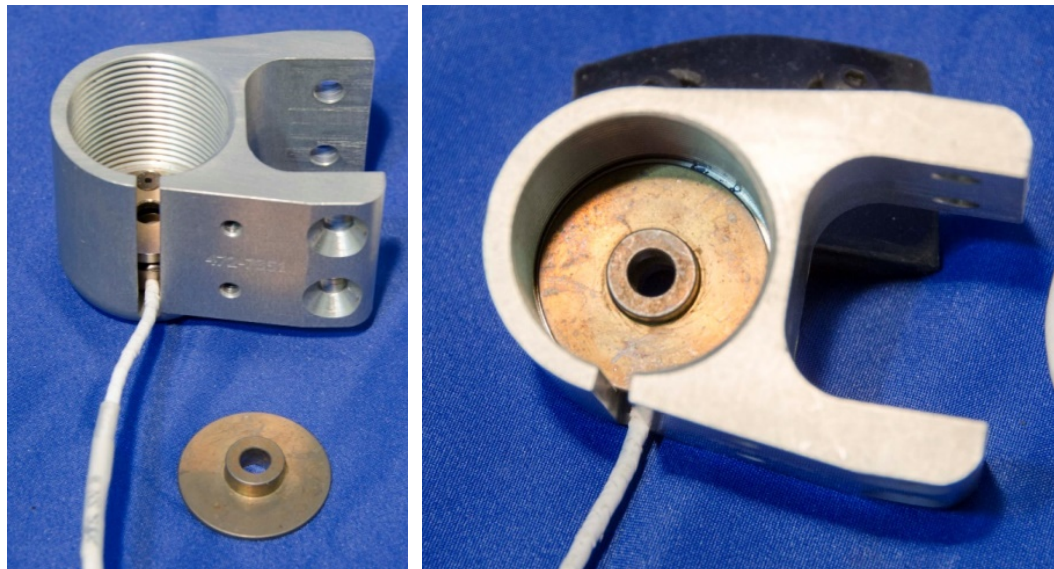

Figure 12-21. Install Achilles spring base cap
12.2.2.9 Place the Achilles Spring Base Cap (472-7356) on top of the load cell with the raised button facing away from the load cell (Figure 12-21).